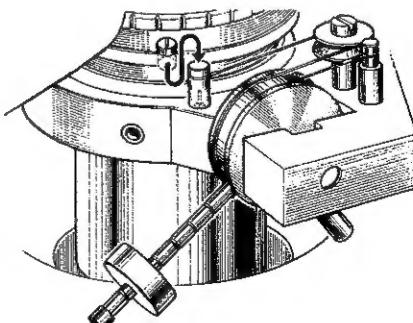

Fig. 20
- When the anti-skating mechanism is not in use (when readjusting the stylus pressure, etc.), place the mini cap on the lifter base pin as shown in Fig. 20.